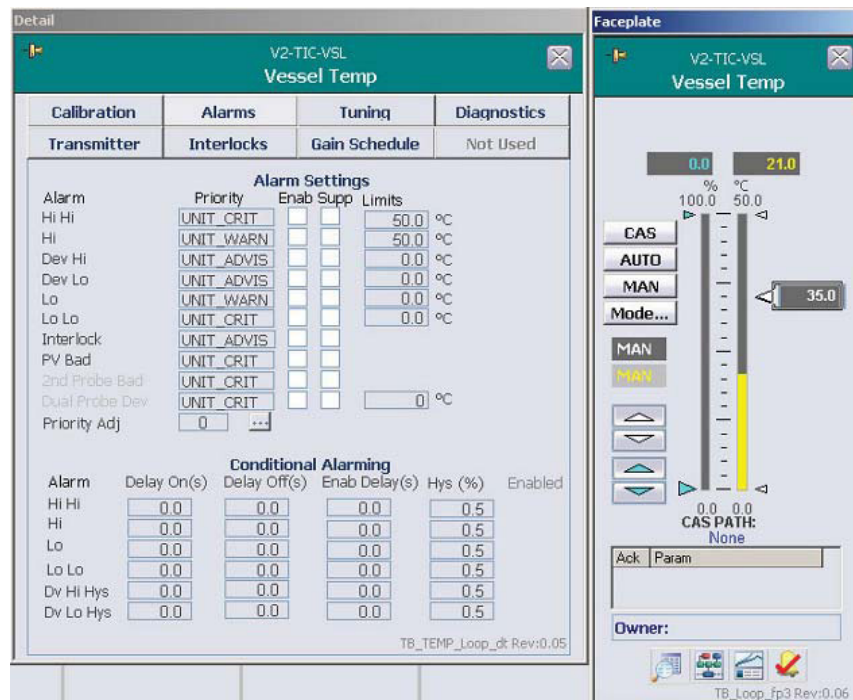

Figure 4.21. Alarms tab for Vessel Temp.
3. Open the Detail screen, click the “Alarms” tab (Figure 4.21), and set the Hi-Hi, Hi, Lo, and Lo-Lo limits. Set the setpoint limits appropriate to the process.